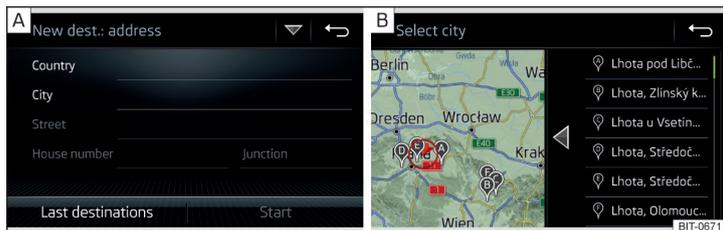

Fig. 201 Enter destination using the address: Main menu / list of visited locations
- If the destination entry menu » Fig. 201 - **A** is not shown using the address, then tap on the function surface  /  → **Address**.
There is a possibility that a map with a list of places of the same name will be displayed during entry» Fig. 201 - **B**.